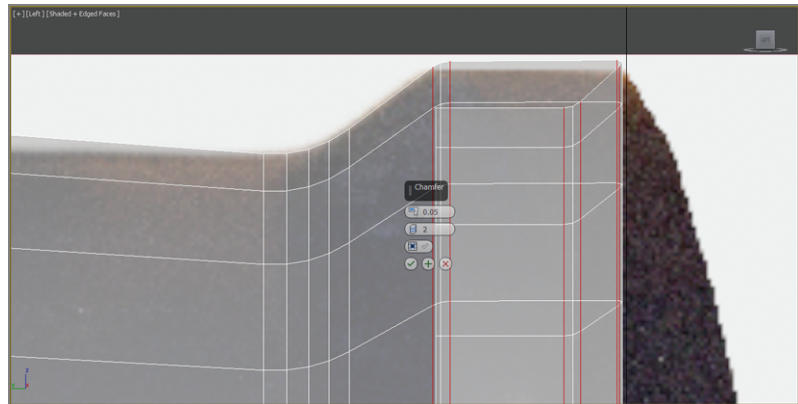

FIGURE 2.16 Chamfer result for the clock body's edge and lip.
20. Then click OK (). The results are shown in Figure 2.16.